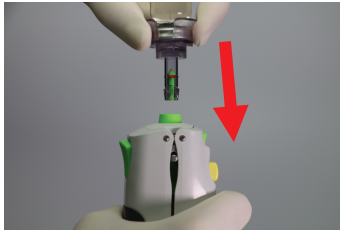

figure 9
- a) Insert the Syringe and Vial Assembly into the Inner Core Housing of the charged Injector until it "clicks" into place, as shown in figure 9.